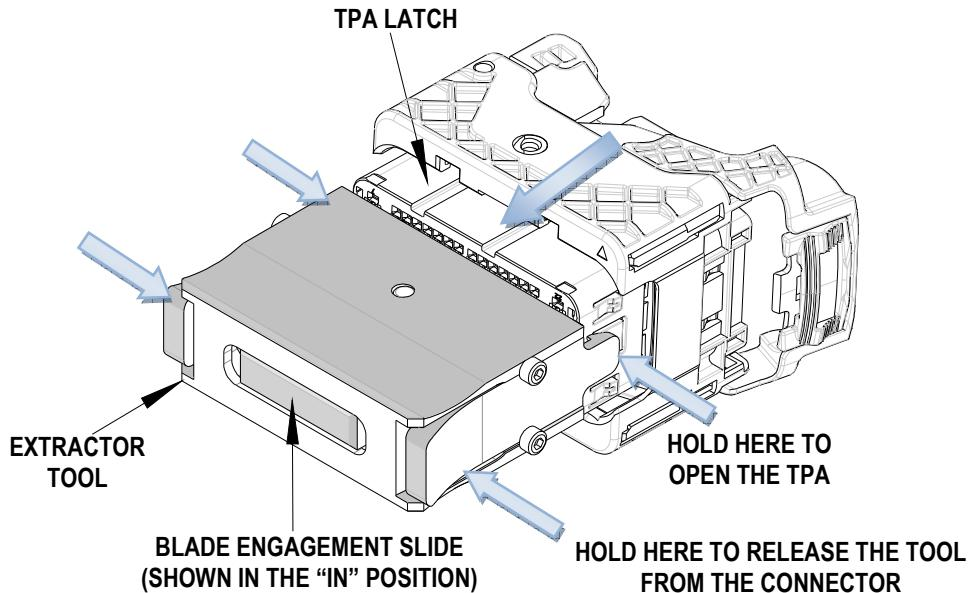

Figure 2
- The tool is now secure on the in the TPA. See Figure 2.
1. Insert the extractor tool into the (2) side slots of the (TPA) secondary lock on each sides.
2. Pull out with the tool. See Figure 2.